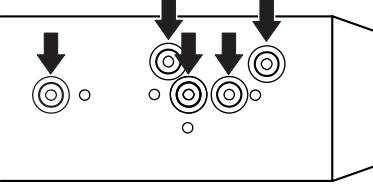

Fig. 7
2. Fastening the unit to the factory radio mounting bracket. (Fig. 7) (Fig. 8)